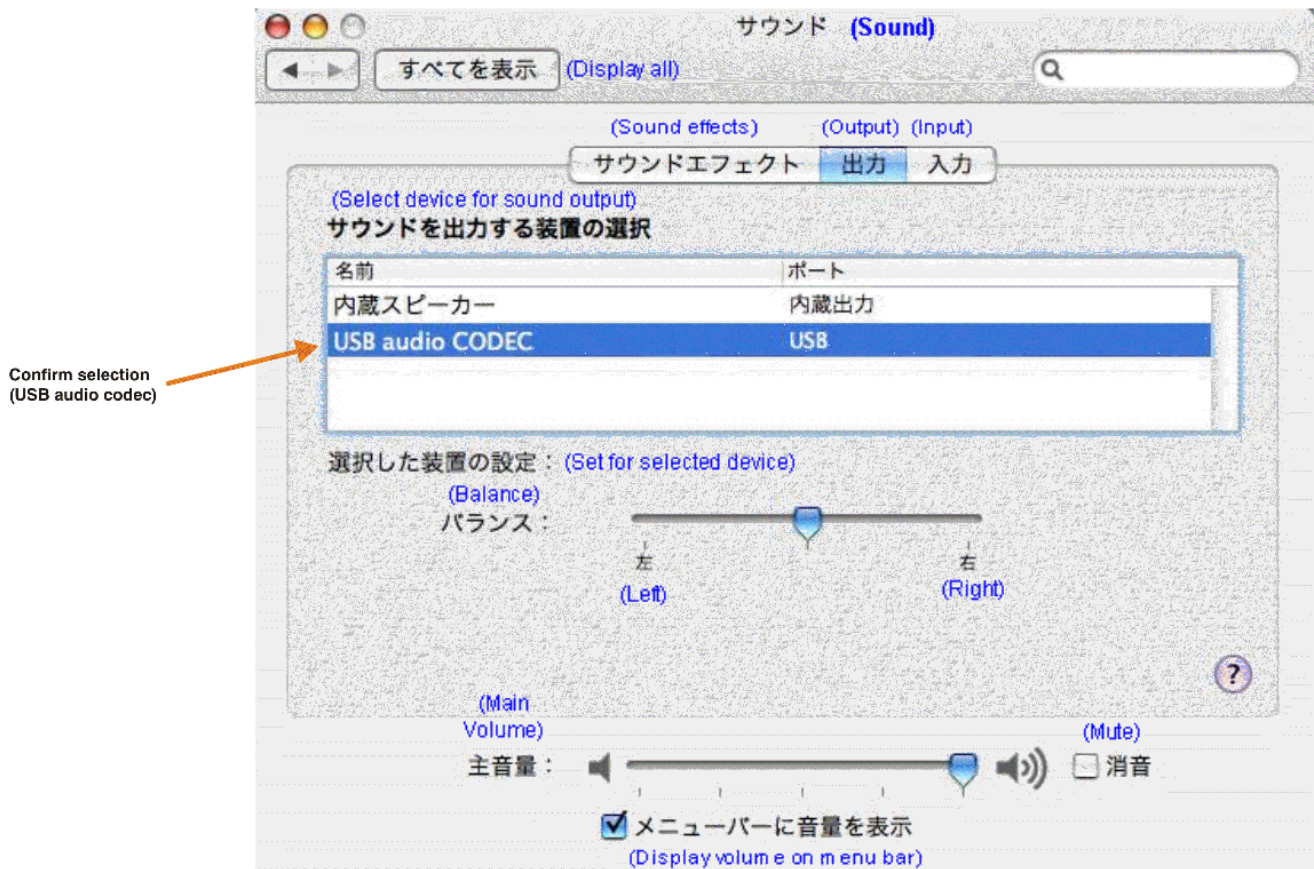
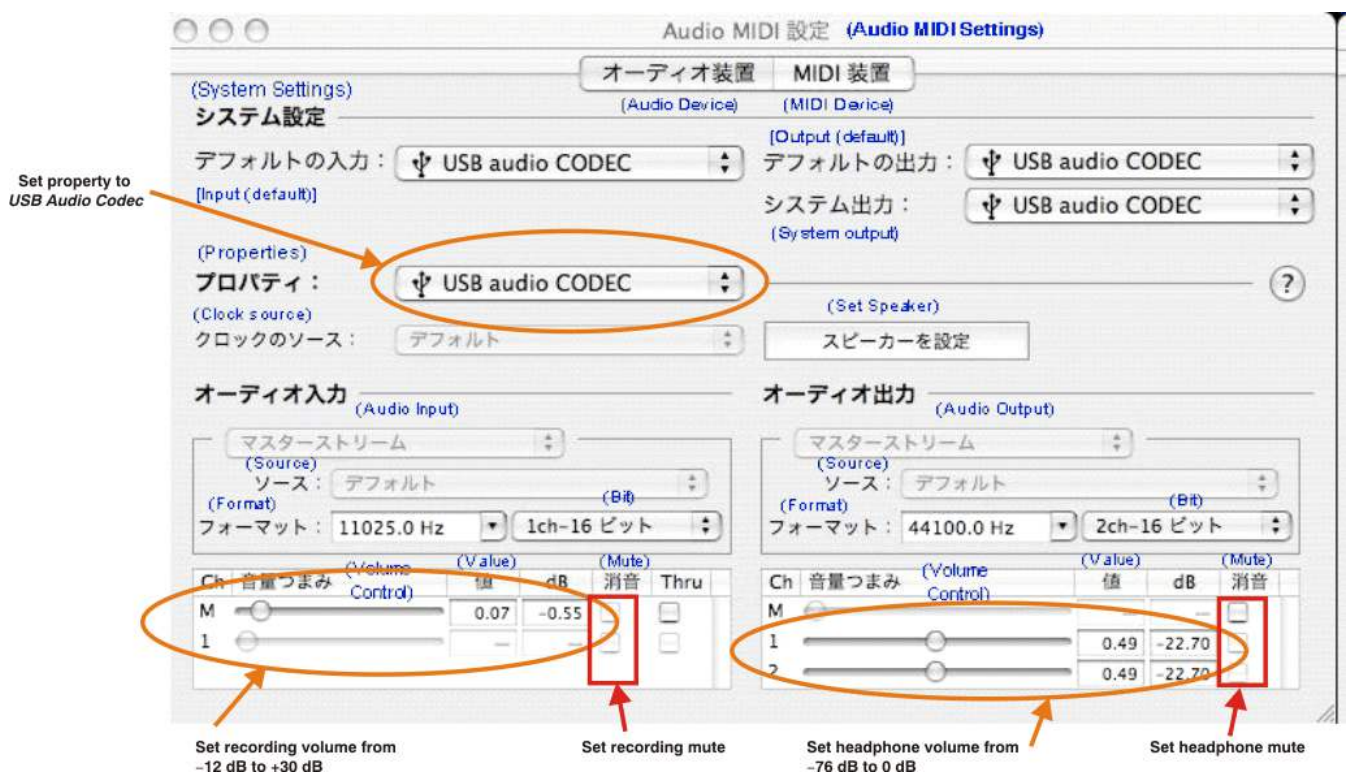

Figure 3-13. Sound—Output Tab (Mac OS)
Figure 3-14. Audio Midi Setting Window (Mac OS)
Step 4. Select the *Output* tab and confirm the USB audio codec appearance as the default playback device, as shown in Figure 3-13.
- Step 1. Open the *Audio MIDI Settings* options (*Application*→*Utility*→*Set Audio MIDI*), as illustrated in Figure 3-14. Alternatively, open the *Output* tab of the *Sound* options, as illustrated in Figure 3-13.
1. Open the *Audio MIDI Settings* options (*Application*→*Utility*→*Set Audio MIDI*), as illustrated in Figure 3-14. Alternatively, open the *Input* tab of the *Sound* options, as illustrated in Figure 3-12.